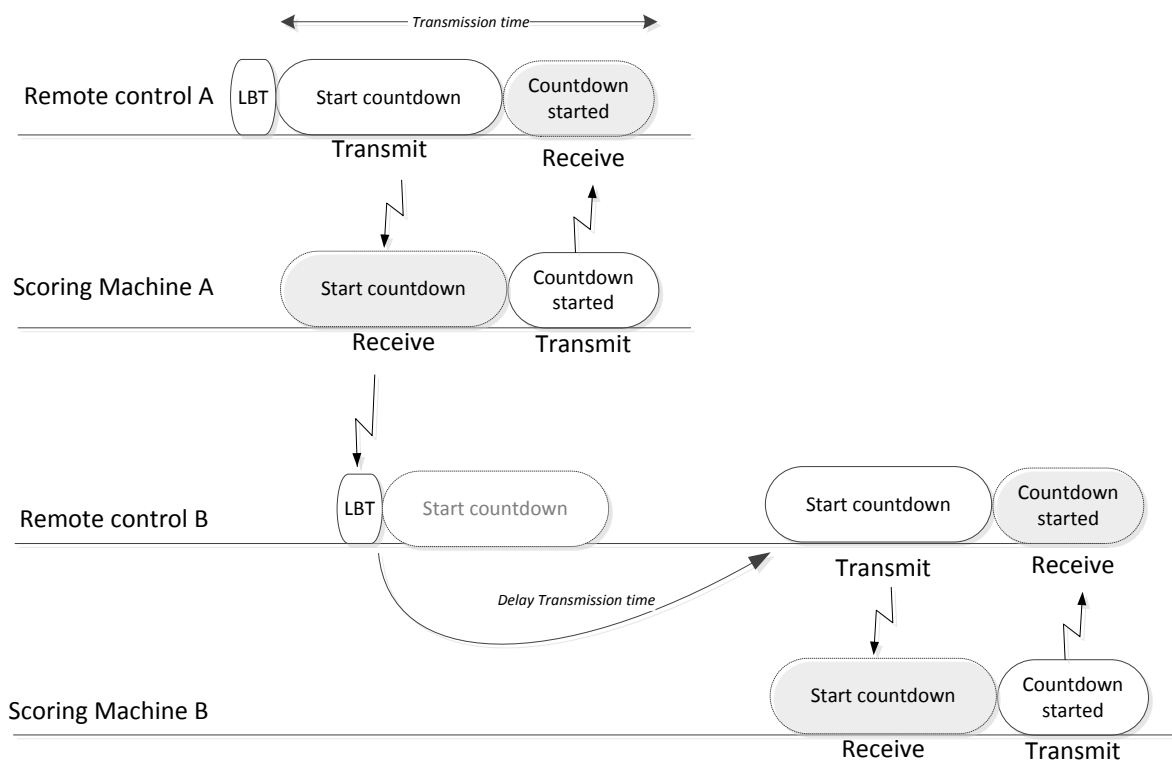

Figure 4: Listen Before Transmit
- The implementation of LBT allows having several systems that co-exist in same area. This situation could appear if the frequency band available is too small to have all the systems on separate communication frequencies (*Figure 4*).